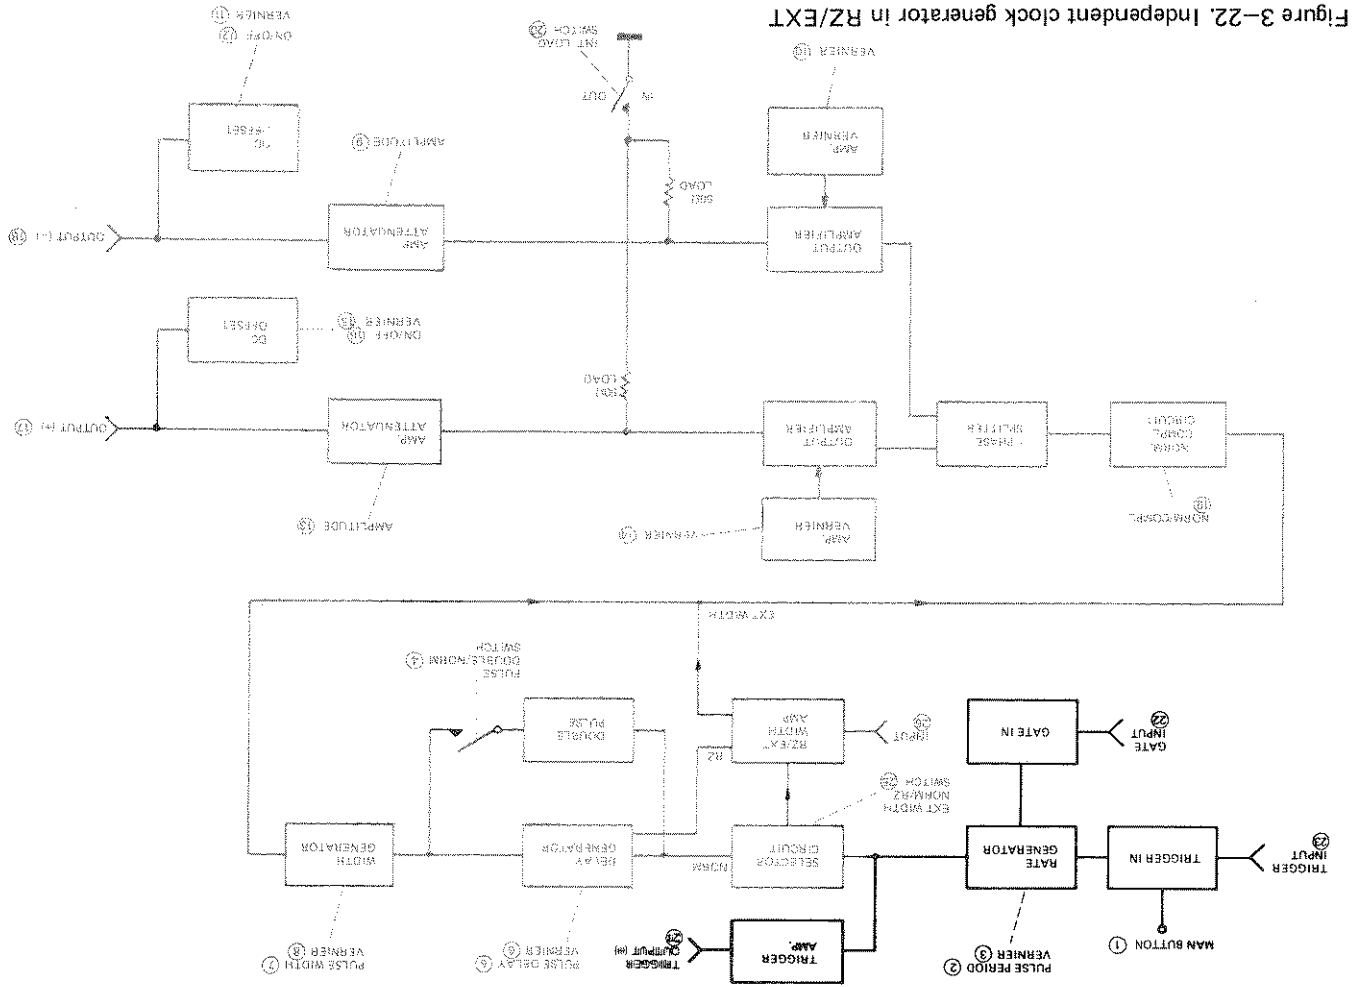

Figure 3-22. Independent clock generator in RZ/EXT WIDTH modes - block diagram
3-55 When operating in RZ or EXT WIDTH modes, the internal rate generator is available as an independent clock generator which provides an output at the TRIGGER OUTPUT connector (21). This output cuts and controls involved in this facility are shown in Figure 3-22.